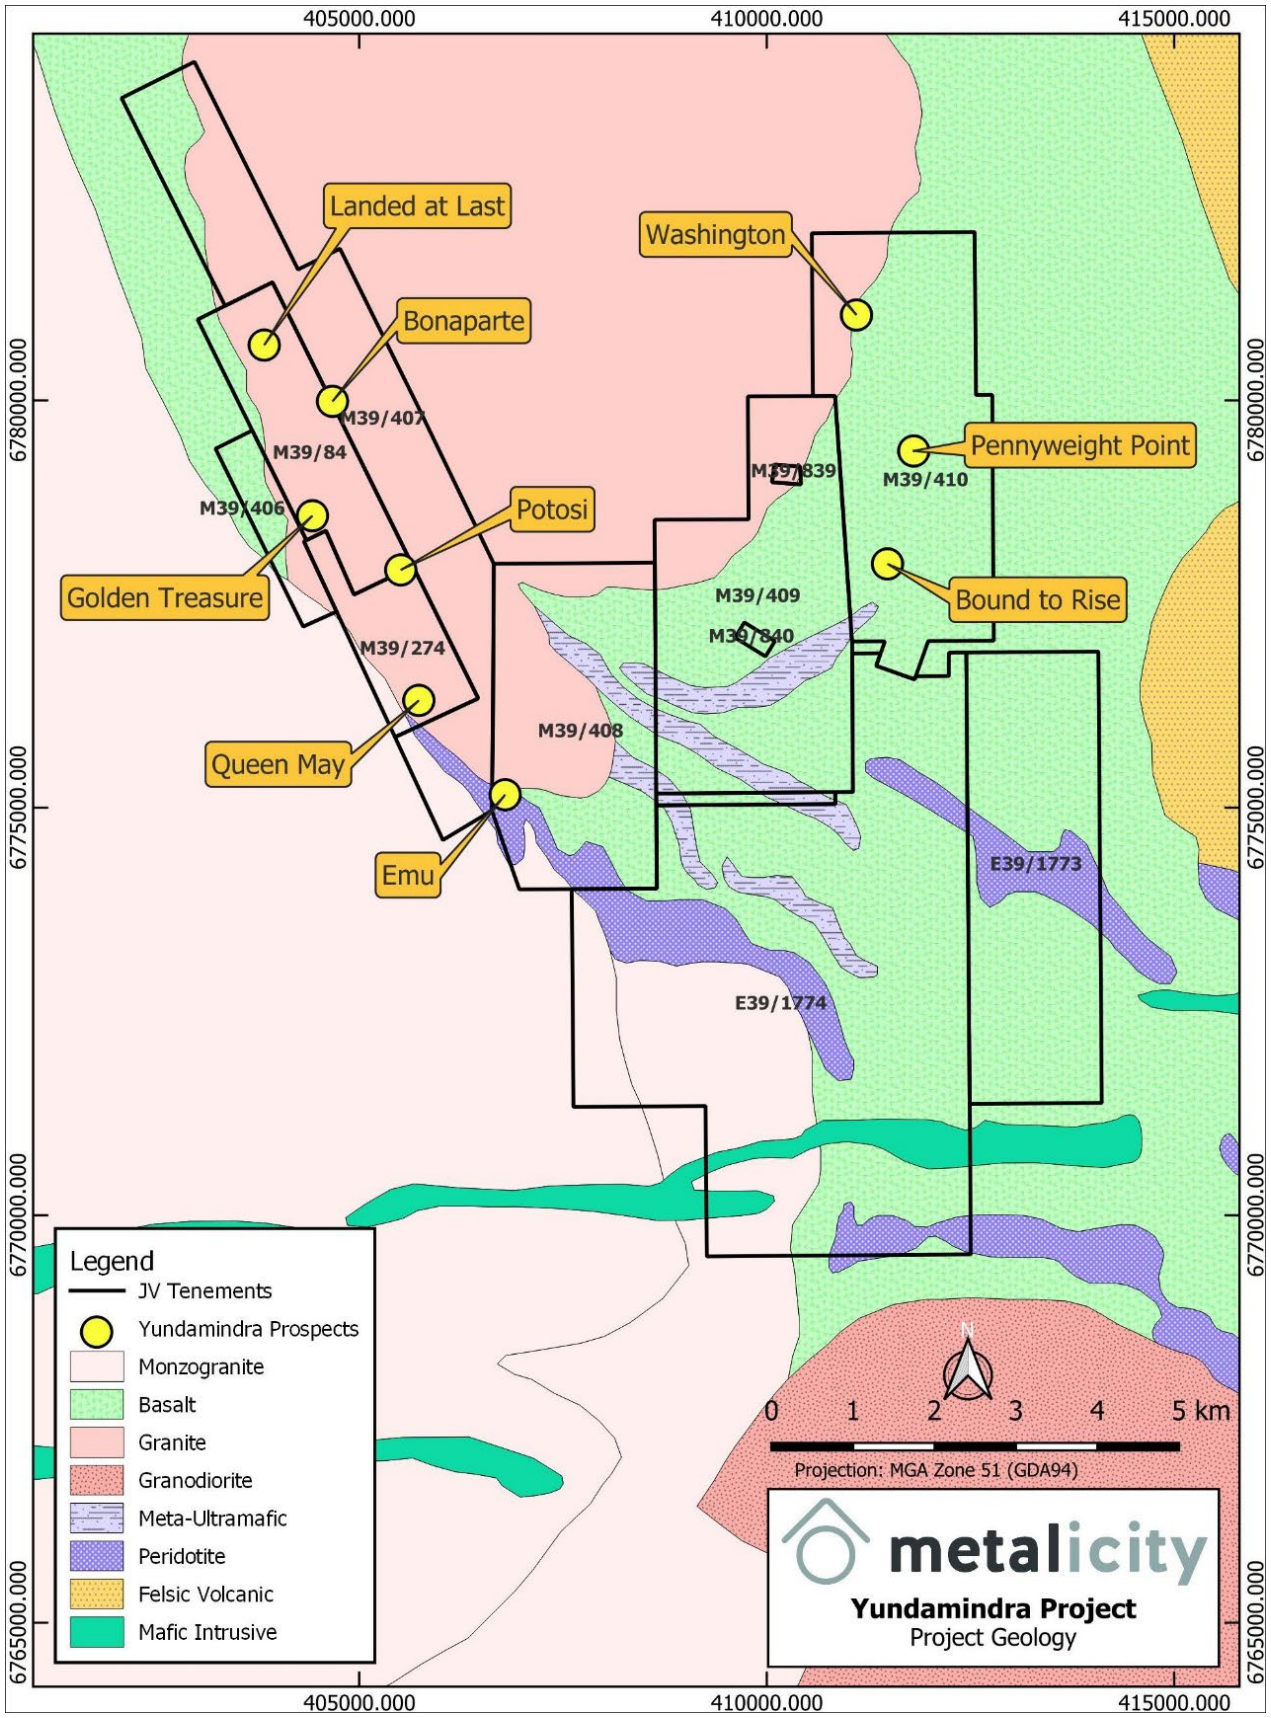

Figure 4 – Yundamindra Gold Project – Priority Prospects.
The Yundamindra Gold Project is located 65 kms southeast of Leonora and 65 kms east of the Joint Venture’s (JV) Kookynie Project and is situated in close proximity to a number of mills easily accessible by road. The Yundamindra Project currently consists of nine historical highly prospective prospects (Figure 4), which had high grade historical production prior to 1970 of 74kt @ 19.3g/t Au for 45,000 ounces.